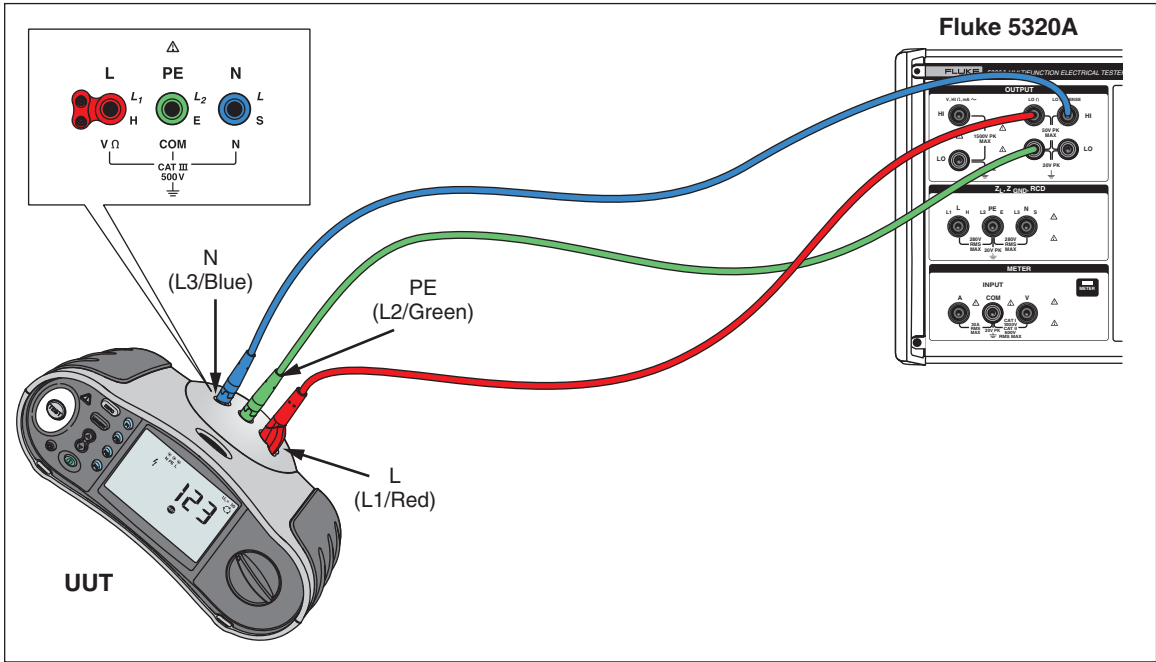

Figure 10. Earth Resistance Tests
- 2. Connect the UUT to the 5320A LO Ω Output terminals as shown in Figure 10.